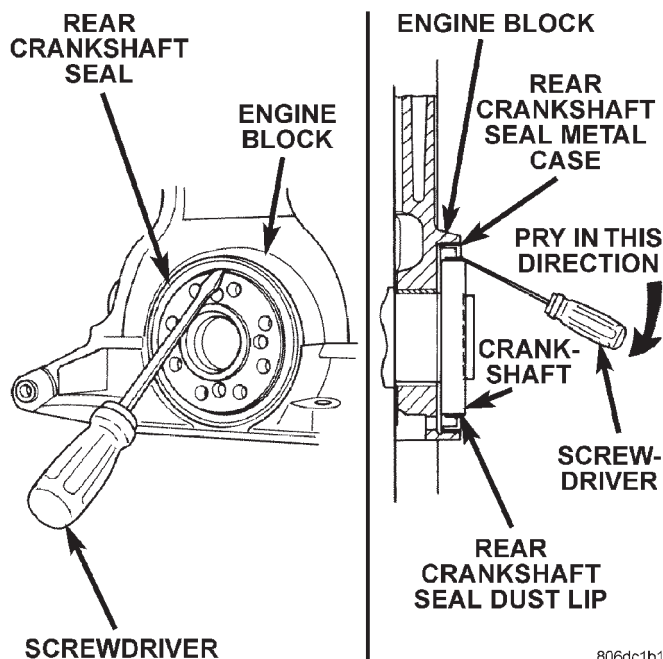

**Fig. 70 Rear Crankshaft Oil Seal—Removal
(1) Insert a 3/16 flat bladed screwdriver between the dust lip and the metal case of the crankshaft seal. Angle the screwdriver (Fig. 70) through the dust lip against metal case of the seal. Pry out seal.